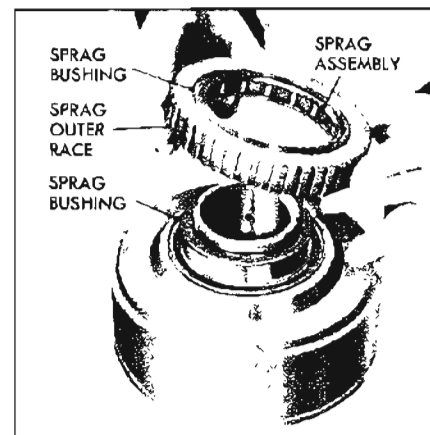

Figure 5-624
2. Remove sprag outer race, bushings and sprag assembly. See Figure 5-624.